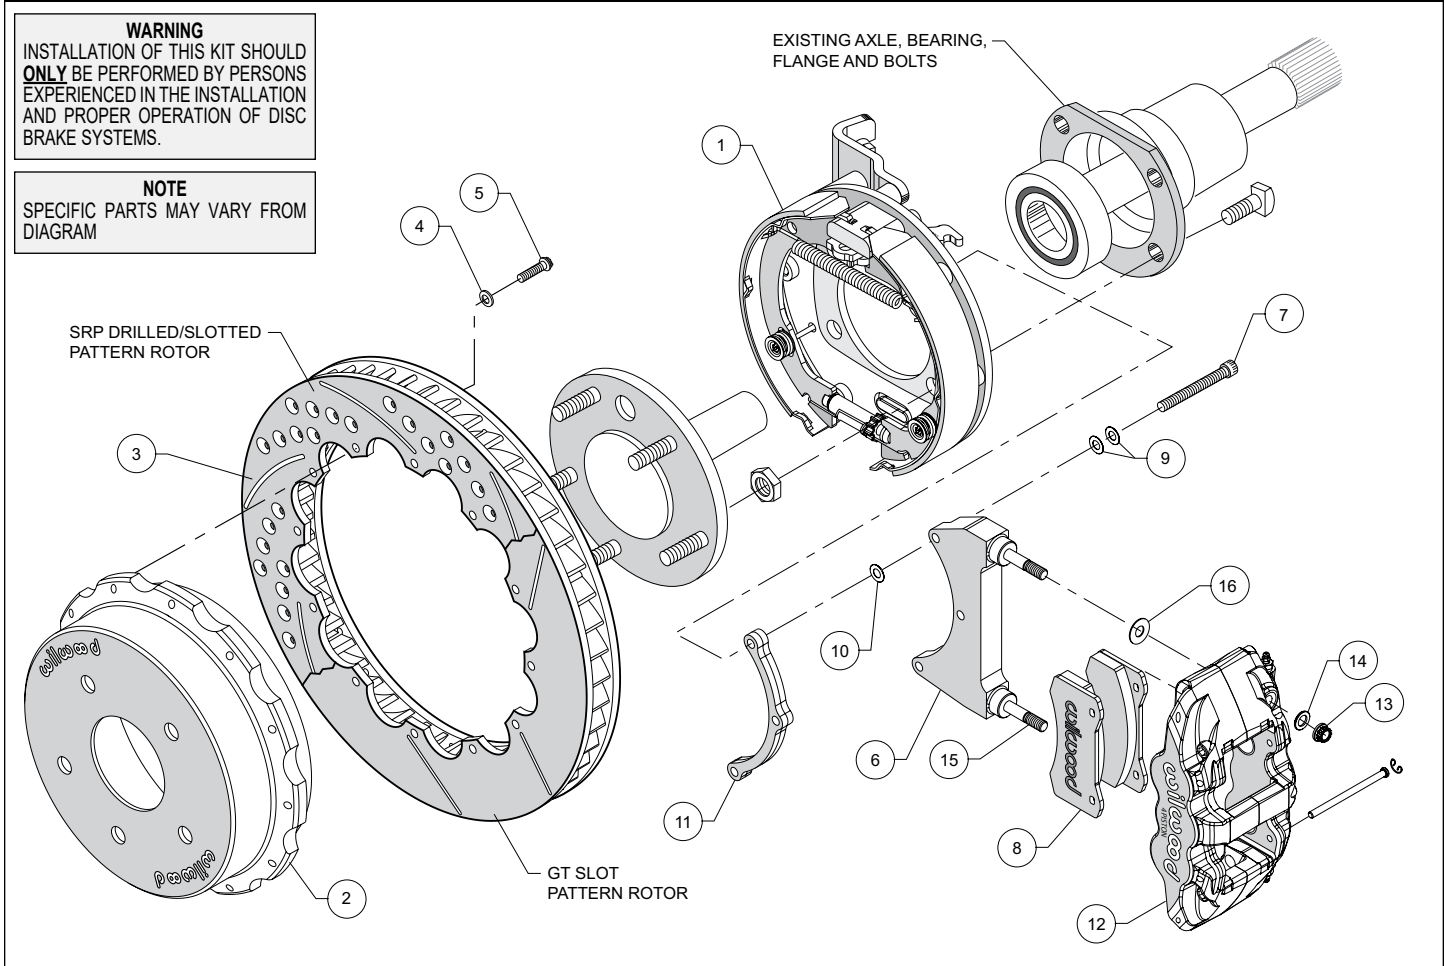
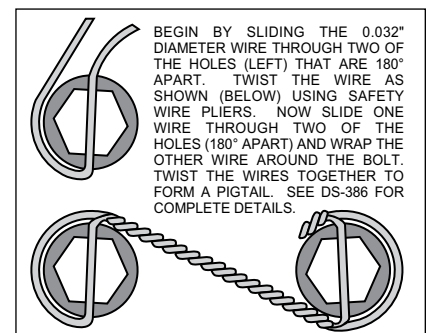

Figure 1. Typical Installation Configuration
Figure 4. Safety Wire Diagram
NOTE: Numbers in parenthesis refer to the parts list and Figure 1 on the preceding pages.
- Slide the bracket kit assembly (1) onto the housing flange and then insert the axle assembly through the center hole of the bracket kit assembly (1). Secure using the stock Original Equipment Manufacturer (OEM) bolts and nuts. Stock OEM hex nuts that retain the bracket kit assembly (1) should be on the wheel side of the bracket. Apply red *Loctite*® 271 to the stock OEM bolt threads and torque to OEM specifications. Make sure the bracket kit assembly (1) brake pads are FACING OUTWARD TOWARDS THE WHEEL.
- With the larger I.D. side of the rotor (3) facing away from the hat (2), bolt rotor (3) to hat (2) through the backside of the rotor using washers (4) and bolts (5). Apply red *Loctite*® 271 to the bolt threads and torque to 155 **in-lb** using a criss-cross pattern. For an added measure of security, the bolts may be safety wired using standard 0.032 inch diameter stainless steel safety wire as shown in Figure 4. Please refer to Wilwood's data sheet DS-386 (available at www.wilwood.com/Pdf/DataSheets/ds386.pdf) for complete safety wire installation instructions.
- Align the correct hole pattern in the hat (2) with the stud pattern on the axle flange. **NOTE:** Some OEM and aftermarket axles come with stud sizes larger than 0.50" diameter. Verify stud size and have a qualified machine shop drill the hats to the correct size, if necessary. Slide the hat/rotor assembly (2 and 3) over the wheel studs covering the bracket kit assembly (1) and against the axle flange face. Check to be sure the hat seats squarely against the hub. Install three lug nuts (finger tighten) to keep the rotor/hat assembly in place while continuing with the installation.
- **NOTE:** Please reference the caution statement at the beginning of the assembly instructions. The caliper mounting bracket assembly (6) should be installed first with clean, dry threads on the mounting bolts (7). Install the bracket from the rear side of the bracket kit assembly (1) by sliding bolt (7) through two flat washers (9), bracket (6), shim washer (10) and finally through the spacer (11), see Figure 1.
- Lubricate caliper mounting studs and nuts with lightweight oil. Install one washer (16) over each pre-installed stud (15) on the radial mount bracket (6). Slide the caliper (12) in place over the studs and rotor, then install the washer (14) and lock nut (13) to hold the caliper in place. The caliper bleed screws should be pointing up. Snug the lock nuts (13) and check that the rotor (3) is centered in the caliper (12). Add or subtract .015" shims (10) as necessary between the caliper mounting bracket (6) and the spacer (11) to center the caliper (12).
- Remove the two pad retaining pins from the caliper (12) by carefully popping out the pin retaining clips and sliding out the pins. Insert the brake pads (8) into the caliper from the bottom, Figure 1. With the friction material facing the rotor, secure the brake pads in place with the pad retaining pins and clips. Reinstall the caliper onto the caliper mounting bracket and temporarily tighten the lock nuts. Check that the top of the brake pad is flush with the outside diameter of the rotor. If not, adjust by adding or subtracting shims (16) between the caliper and the bracket.
- Adjust the parking brake shoes outward (using a drum shoe adjustment tool available at your local auto parts store) while spinning the hat (2) until a slight drag is felt against the hat/drum. Remove the lug nuts that were holding the hat/rotor in place. Install the wheel and lug nuts. Check to see that the wheel rotates freely without interference.
- Once all clearances have been checked, remove the wheel, caliper, hat/rotor from the bracket kit assembly (1). Secure the caliper mounting bracket (6) to the bracket kit assembly (1) using red *Loctite*[®] 271. Torque bolts (7) to 180 **in-lb**. Reinstall the hat/rotor assembly and again use lug nuts to hold it in place. Reinstall the caliper, torque the caliper nuts (13) to 47 ft-lb.
- NOTE:** Clevis and cable kits which attach to the parking brake assembly are not included in the Wilwood parking brake kit. Wilwood offers a generic style parking brake cable kit, P/N 330-9371 for this application which can be ordered separately from your local Wilwood dealer or by calling Wilwood customer service at (805) 388-1188.